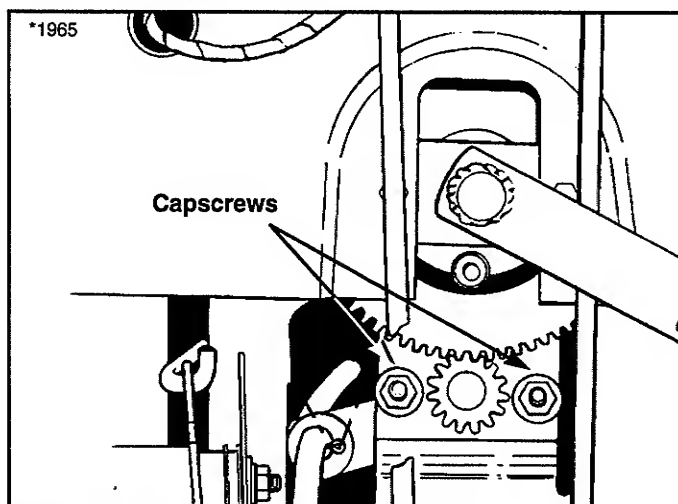

Figure 31. Steering Gear Adjustment
1. See figure 31. Loosen the two capscrews and adjust the bracket so the gear teeth are closely meshed.